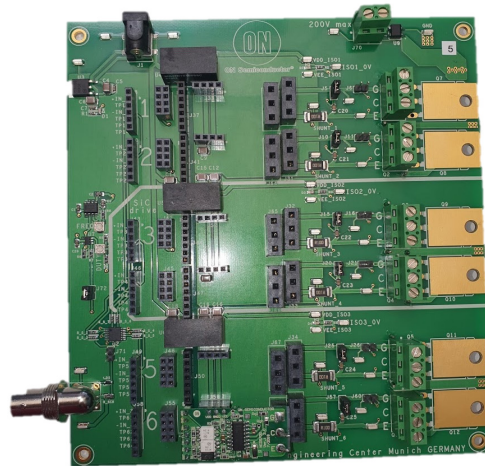

Figure 6. NCD5700 Connected to SECO-GDBB-GEVB Auxiliary Evaluation Board
- Plug-and-Play Testing with SECO-GDBB-GEVB as seen in Figure 6
The board can be mounted into an existing power board, shown as “Main PCB” in Figure 6. If there are no components or low profile surface mount components only, the mini SMD EVB can be mounted parallel to the main PCB as shown in Figure 6. The TO-247, power device leads would pass through the mini EVB plated thru-holes and into the main PCB. Or, if necessary, the gate lead of the TO-247, power device can be soldered to the plated thru-hole on the EVB and cut so that it does not contact the main PCB. For mechanical strength, it is preferred that the TO-247 gate lead pass through both PCB's. This configuration is helpful for already existing application with horizontal TO-247 positions.